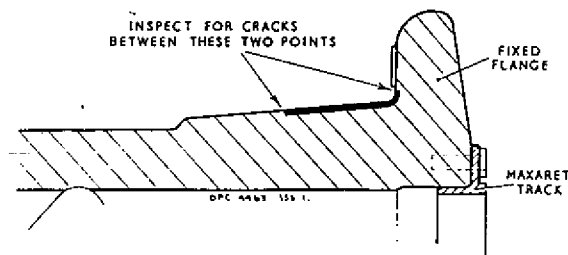

Fig.2 Crack examination area
- (1) Examine the hub and flange for damage and corrosion particularly in the vicinity of the flanges and tyre bead seats. Excessive damage in these areas will render the wheel unserviceable. Repairable damage therefore, is limited to superficial cuts and abrasions. Carefully dress out superficial cuts and abrasions and slight surface corrosion with a smooth file and emery cloth blending the sharp edges to maintain the essential curvature (where applicable) as far as possible. The maximum permitted depth of dressing is 0.020 in. After dressing, restore the protective treatment in accordance with AP 119A-0601-1C Chap.5.
- (2) Carefully examine the hub and loose flange for cracks. Cracks are not permitted. An examination for cracks must be made particularly on wheels which have been repaired in accordance with RP214. Such wheels may be identified by the code RP214 stamped in close proximity to the wheel part number. RP214 carried out on earlier wheels only has since been cancelled. This scheme renews the Maxaret track on wheels which have been damaged. Instances have occurred of cracks appearing in the inner radius at the junction of the fixed flange and the main hub body.
(3) Check for cracking in the area shown in fig.2, using the ultrasonic and /or eddy current method of crack detection.